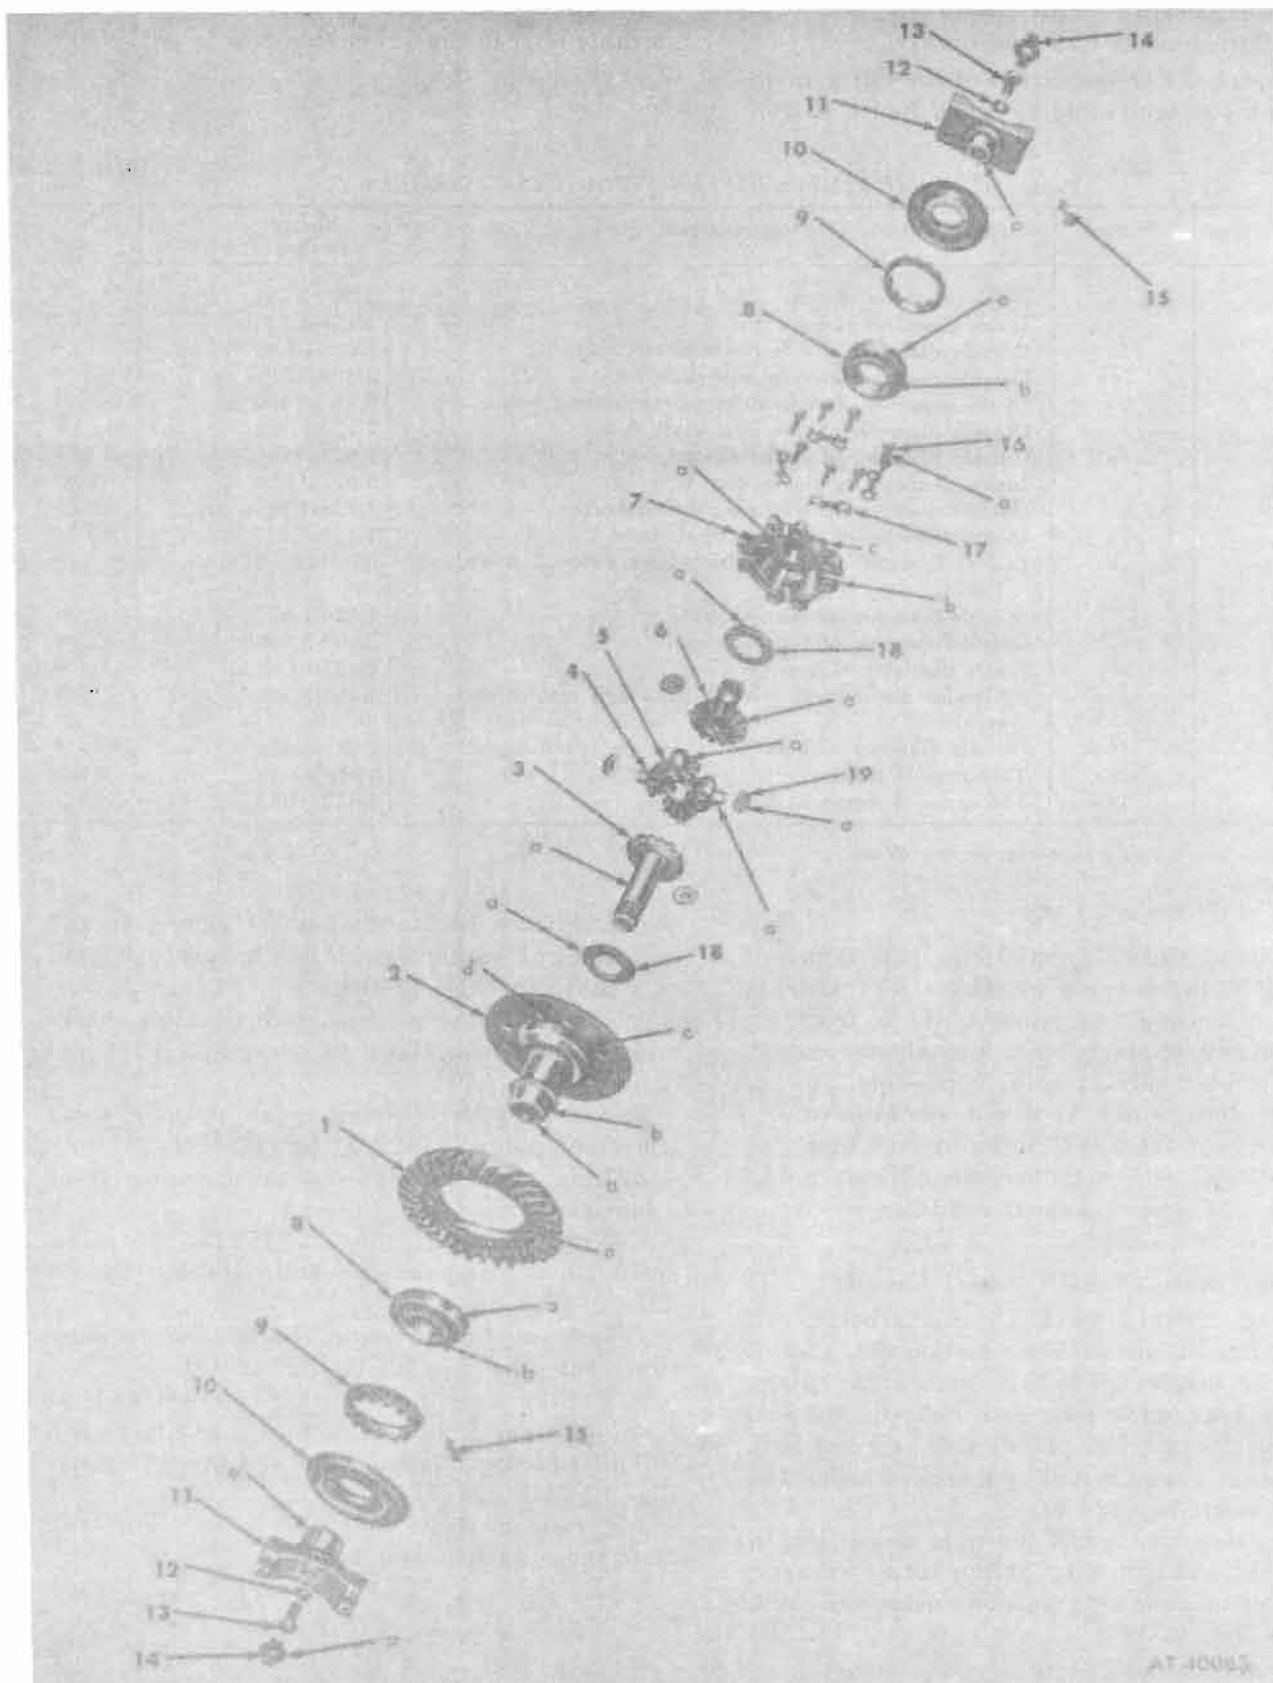

Figure 12-36. Differential case assembly—points of measurement.
a. *Inspection.* For inspection of the differential case assembly refer to table 12-2 and figure 12-36.
Legend to figure 12-36: